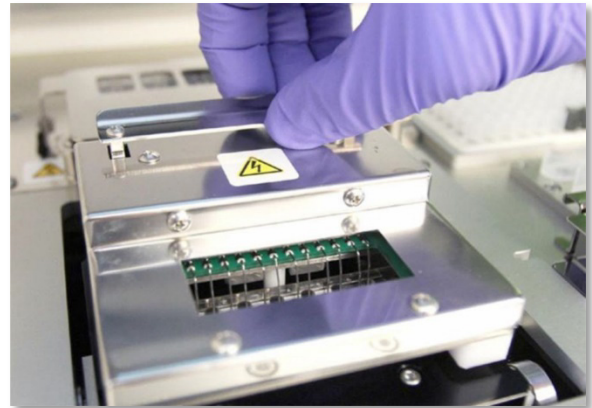

Figure 38: Releasing the fixture after a completed run.
3. To release the fixture after the run is complete, lift the lever in the center top of the device towards the front with a finger as shown in **Figure 38**.